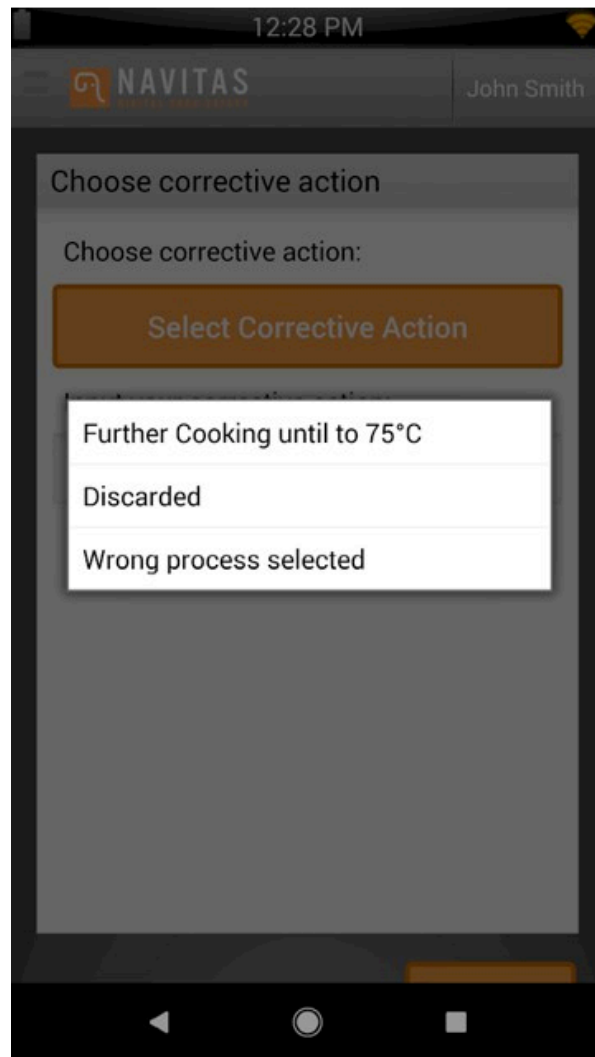

Fig. 17 – Noncompliant temperature resolution screen.
1. If the temperature taken is out of the compliant range of the product, you will be prompted for options to discard or comment the non-compliance (see Fig. 17). Complete this action and click submit. Should the temperature be compliant you will receive a success notification.